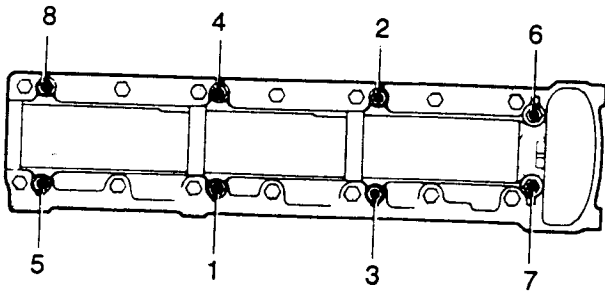

Fig B4.72
(18) Refer to Fig B4.72. Slacken the cylinder head bolts (1 to 8) gradually in a diagonal sequence starting with bolt (8) and ending with bolt (1) and remove the bolts.
(19) Lift off the cylinder head and remove the gasket.
(1) Fit a new cylinder head gasket.
(2) Replace the cylinder head and bolts. Tighten the bolts gradually in the sequence bolt (1) to bolt (8) (Fig B4.72). Final torque figure for the bolts is 90 N.m.
(3) Check that the crankshaft pulley mark is still at TDC.